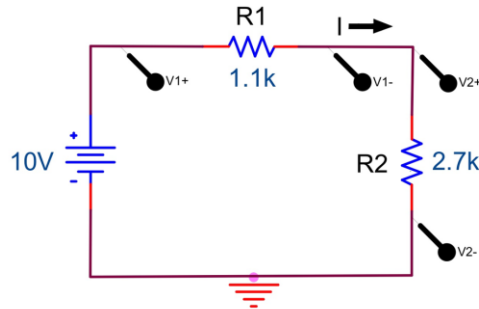

Figure 2.4
3. Construct Figure 2.4 and measure and record V_1 and V_2 . Calculate I based on measured voltages and resistances.